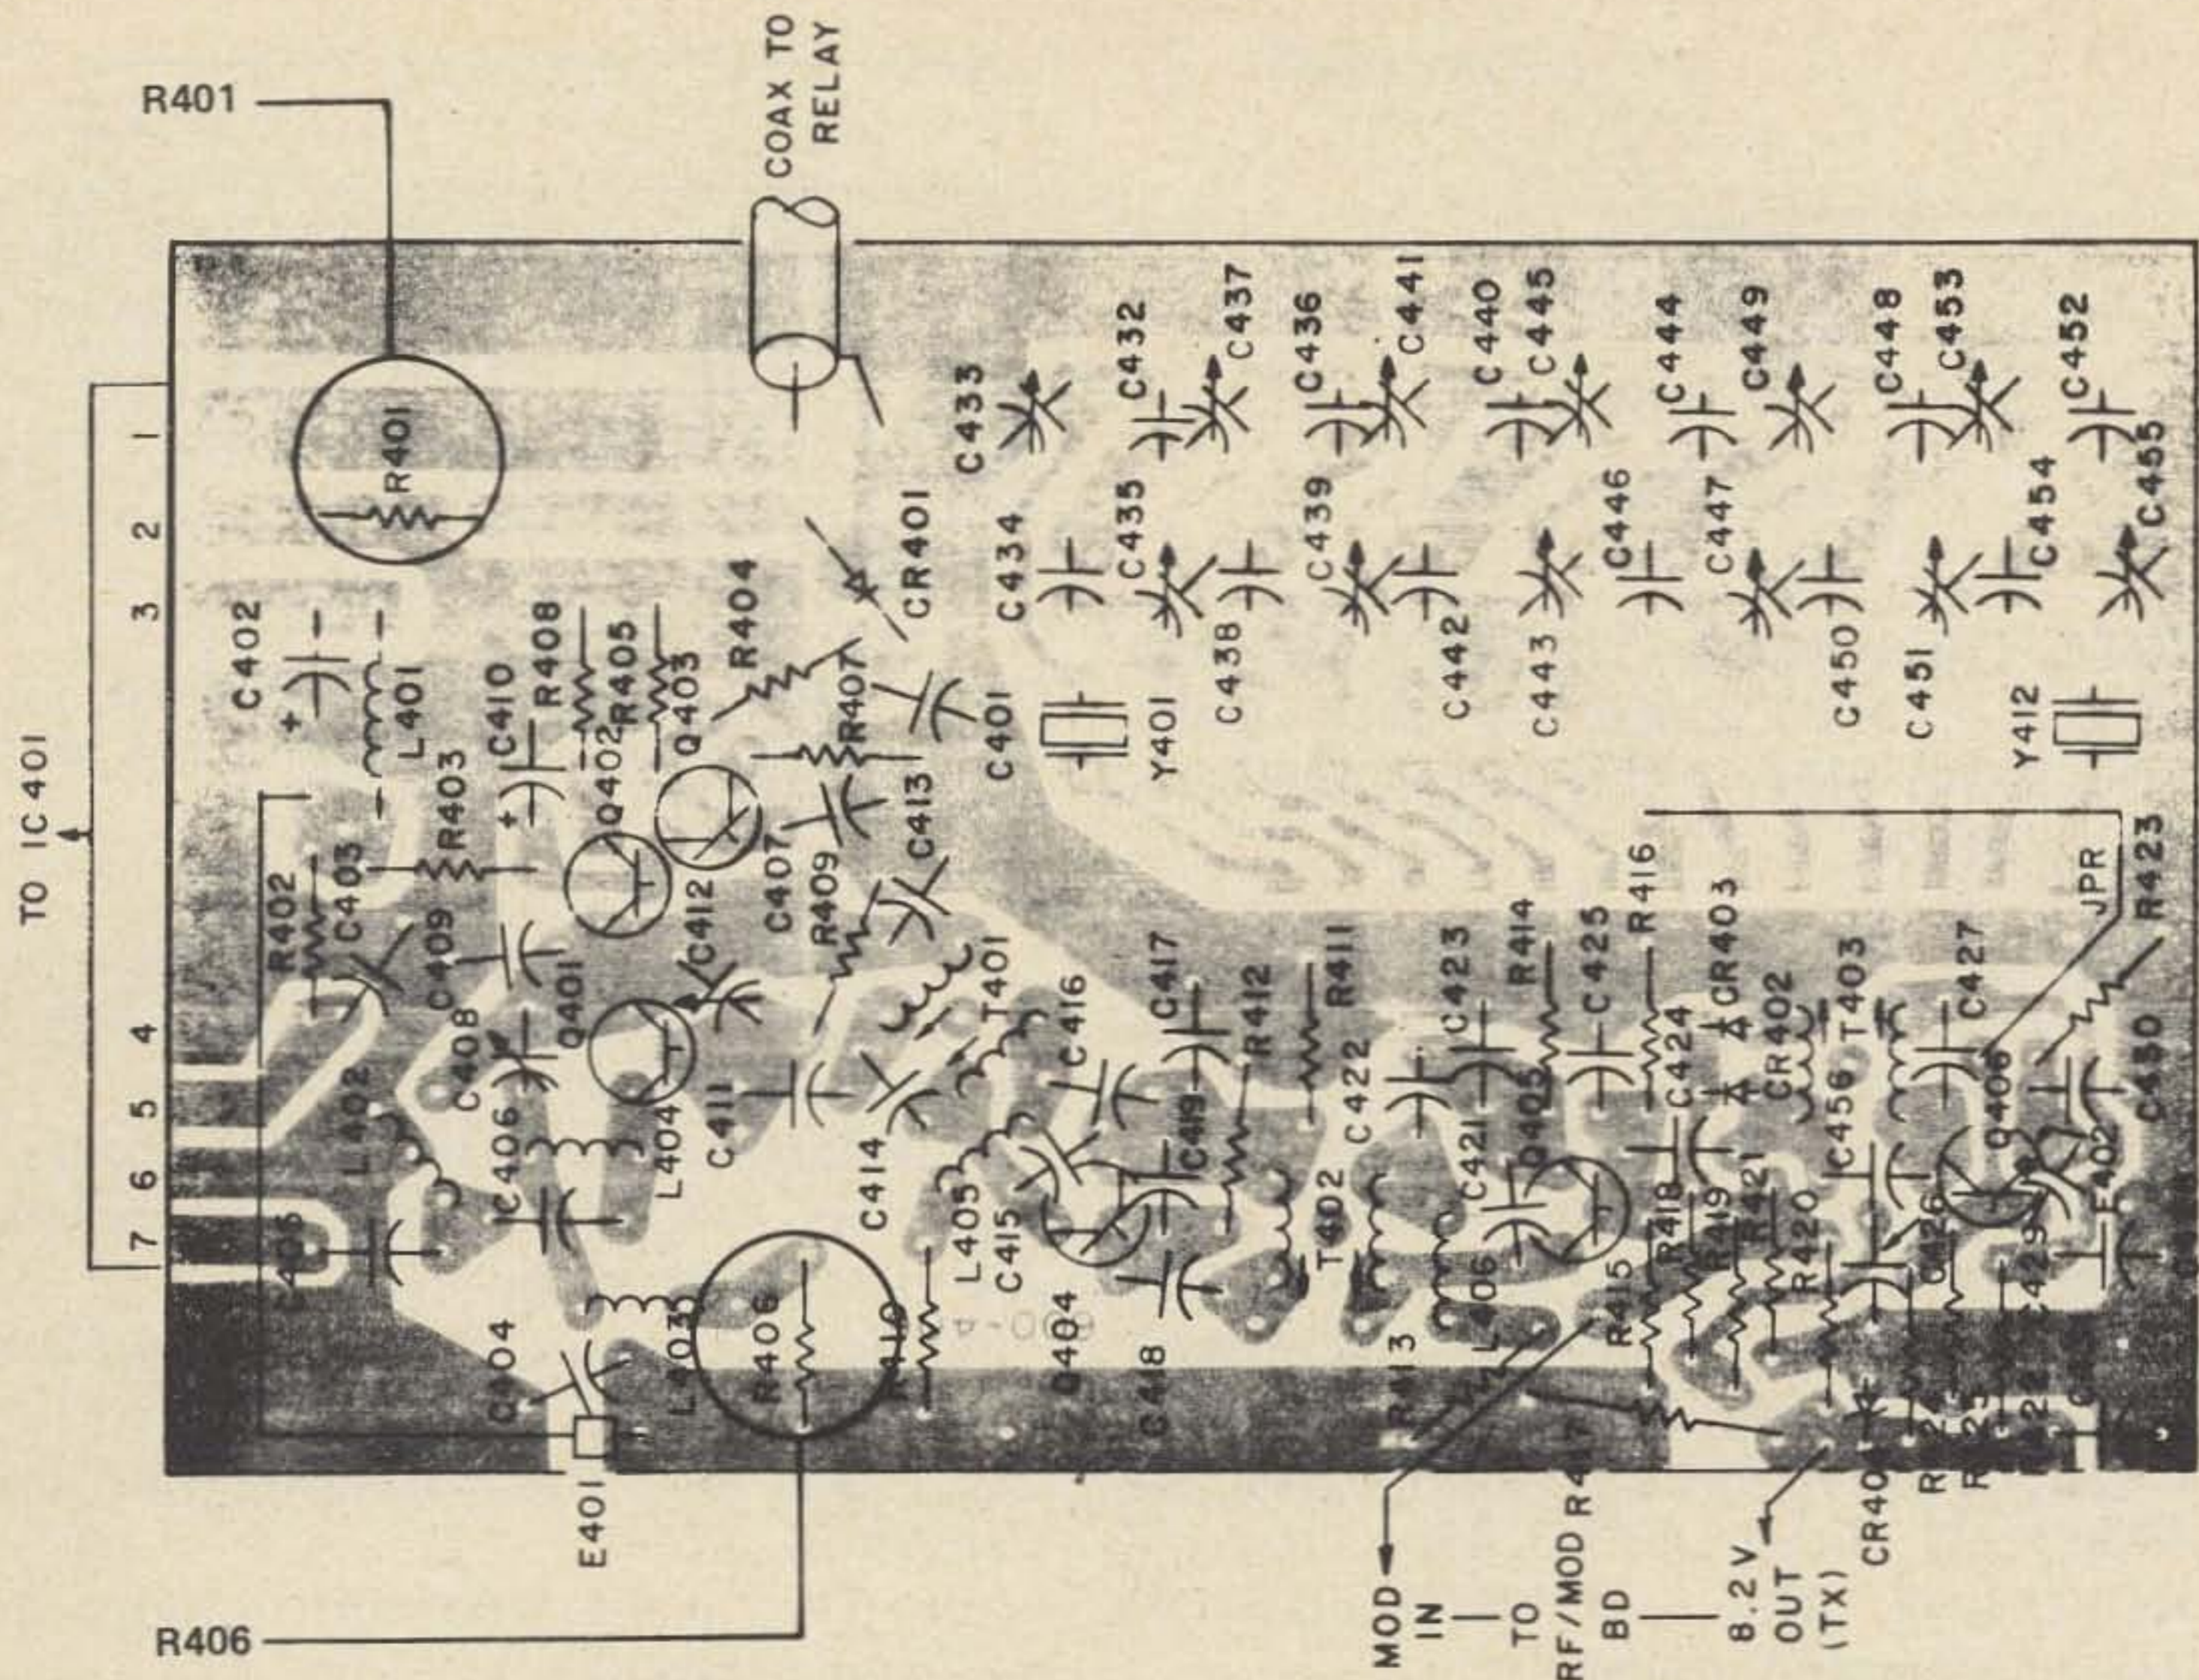

Fig. 6. Transmitter board 600-406, foil side.
3. Locate R401 on the transmitter board; see Fig. 6. Check its value. If it is 150 Ohms, as was installed in the first factory production run, replace it with an 82 Ohm, 1/4 Watt resistor. This factory authorized modification desenses the Vswr limiting circuit to improve output power levels into slightly mismatched antenna systems. Re-install speaker.
4. Turn rig over so that foil side is facing you. Locate R406 (10 Ohms) on the transmitter board referring to Fig. 6. Using a soldering iron with a desoldering device, remove solder around both R406 leads. Alternately apply pressure to each lead using the soldering iron tip to release the resistor from the PC board. You can use a lead from a spare 1/4 Watt resistor to help push the R406 leads through. SAVE R406. You will use it later. Make sure both holes are completely clear of solder.
14. Solder one end of a 10 Ohm resistor, namely R406 removed in Step 4, to the center terminal of the switch. Solder the other end to a 4" piece of insulated #24 wire. Use a large piece of spaghetti to completely cover the resistor and solder joints. The other end of the wire is soldered to the plated-through hole in the transmitter board, formerly occupied by R406, that is electrically connected to L403. It is the hole furthest away from the wall. See Figs. 6 and 12. The resistor and wire should also have